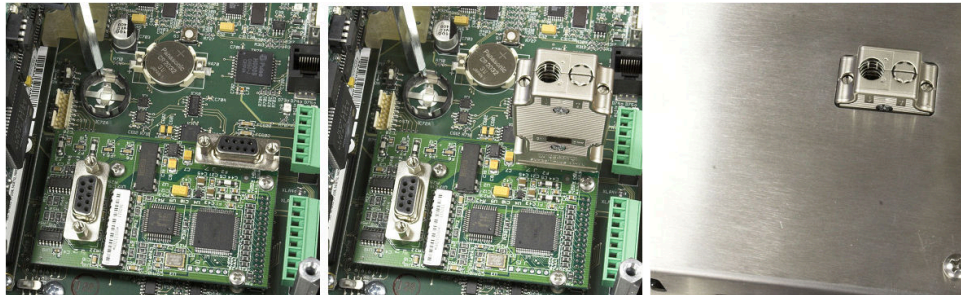
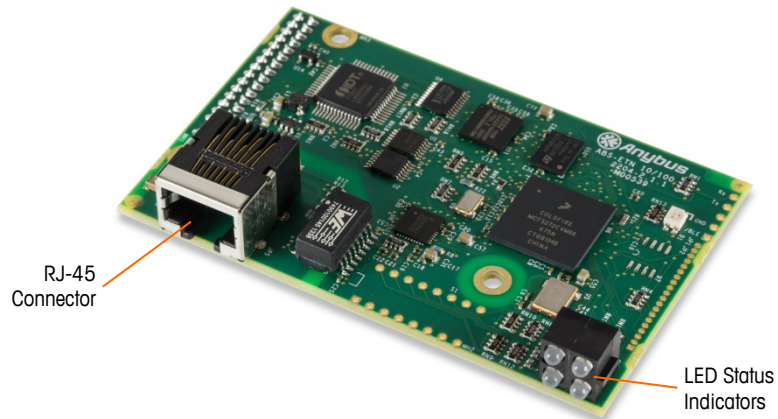
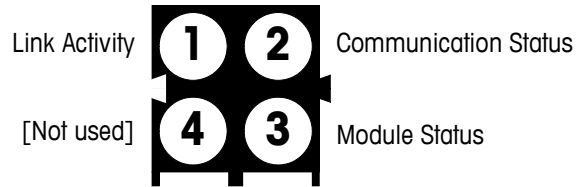

Figure 2-110: Profibus PLC Module Connector for Panel Mount Enclosure
Figure 2-111: Profinet PLC Module Components
Figure 2-112: Profinet Status Indicator LEDs
The ControlNet PLC Module (Figure 2-110) connects to the ControlNet network via one or two coaxial cables (Figure 2-112). Channel B is redundant with Channel A, and is not used unless ControlNet detects no signal on Channel A. Note that the module’s address is set in software, and the MAC ID switches indicated in Figure 2-110 are not used.
- Do not plug an Ethernet cable into the RJ-45 connector shown at left in Figure 2-110. Damage to the IND780 may result.
Figure 2-111 shows the array of status indicator LEDs on the ControlNet card (see also Figure 2-110).
Figure 2-112 shows an example of a ControlNet cable, and a close-up view of the connector. Note that the connector may be right-angled or straight. This cable is not supplied by METTLER TOLEDO.